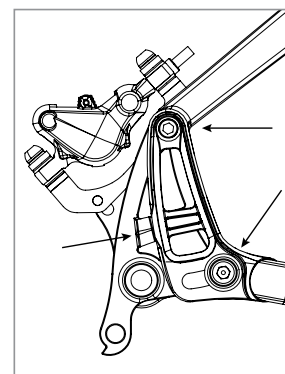

Figure 4
1. Slightly loosen the upper pivot bolts and the lower fixing bolts on both the driveside and non-driveside dropouts (FIG 4).
1. Tighten the upper fixing bolts and both lower fixing bolts to 8Nm (FIG 4).
3. If present, tighten both tension screws 1/8 turn to prevent them from rattling out during use (FIG 4).